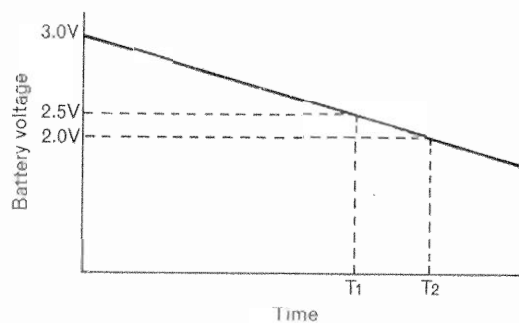

Fig. 4
IC504-② and peripheral circuits compose the blocking oscillation circuit; when the power switch is turned ON, assuming the +5V constant voltage power supply is used as reference voltage ( $V_1$ ), it compares this voltage with the back-up battery voltage ( $V_2$ ), and when  $V_2$  drops to  $T_1$  shown in Fig. 4 and  $V_2$  is smaller than  $V_1$ , this circuit starts oscillations. Battery alarm indicator LED501 starts flashing due to these oscillations. IC504-① and peripheral circuits detect the back-up battery voltage as well.
When the back-up voltage drops to  $T_2$  (power voltage which can hold data) shown in Fig. 4, immediately after this circuit clears data in the memory (RAM) inside the microprocessor, the power switch is turned ON, making 4 tape select indicators flash to warn that no data is held and it inhibits mechanical operation. Pressing one of the 4 tape select buttons releases the mechanical operation inhibition mode. This operation stops the flashing of the 4 tape select indicators and the indicator corresponding to the pressed tape select button flashes. At the same time, the tape select memory indicator starts flashing to warn of the absence of data in the memories.